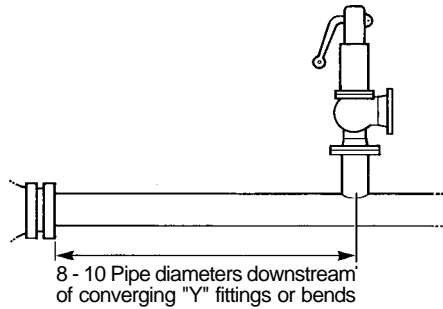
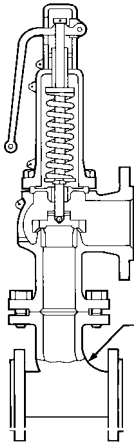
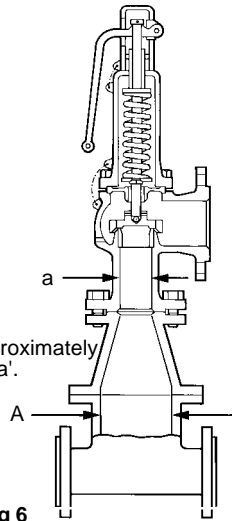

Fig 4
Fig 5
Fig 6
B.S.6759 makes the following recommendations to prevent these problems. Valve should be fitted 8-10 pipe diameters downstream of Converging or Diverging Fittings or Bends. (Fig. 4). Inlet branches should be as Fig. 5 or Fig. 6.